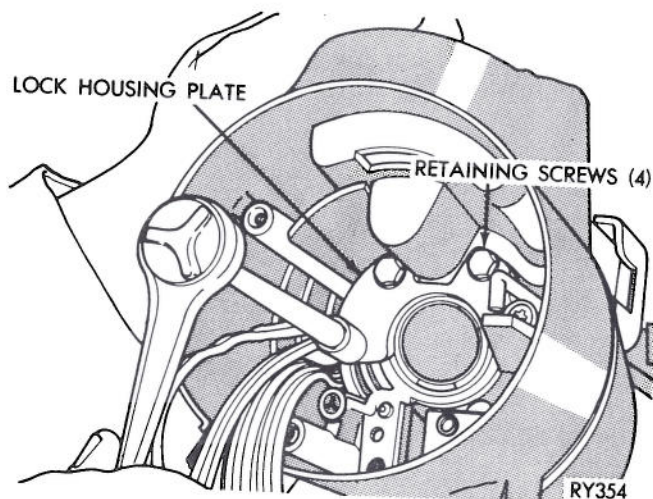

Fig. 12—Lock Housing Screws
(8) Remove four lock housing to column jacket hex head retaining screws and remove lock housing plate and housing from jacket (Fig. 12).
(9) When removing lock housing, turn lock housing 90 degrees to disengage from ignition switch actuator rod.